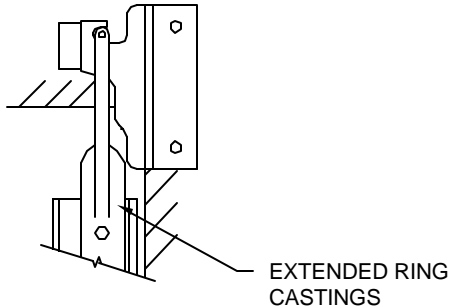

Fig. 2-1
2. Fasten the PR-25 extended ring to the closing channel. Inside looking out, hang the closing channel by positioning the extended ring casting onto the RH-30-MX pipe casting (Fig. 2-1).